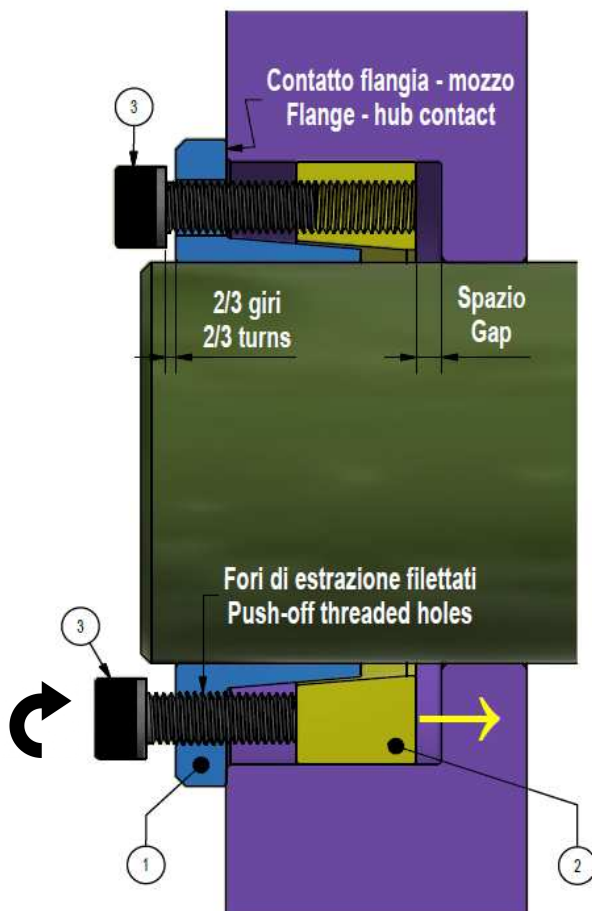

Fig. 2. Disengagement of locking rings and positioning of Locking Assembly.
2. **For ease of installation, locking rings shall be disengaged** (fig. 2). Loosen all screws by two/three turns; then transfer and hand-tighten at least two screws into the push-off threaded holes in the inner ring.
3. Insert Locking Assembly into the hub bore and make it slide onto the shaft, making sure that connected components are positioned as required. **Inner and outer rings shall be completely supported by shaft respectively hub bore** (fig. 2). **The flange of inner ring shall be in full contact with the face of the hub** (fig. 2). At this point, relocate the screws used to disengage the locking rings. Installation into hubs with shoulder requires a few mm's gap between outer ring and shoulder (fig. 2).